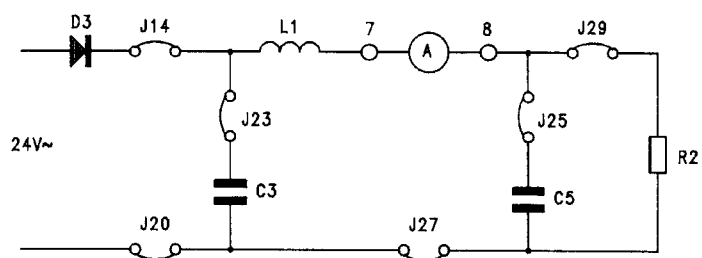

fig. B05.10
- remove jumper J23 to produce the L C filter (figure B05.10)
- measure the dc current between test points 7-8, the average current in the circuit and observe and measure the peak-to-peak voltage of the ripple on the load connect jumper J23, to produce the CLC filter (figure B05.10)